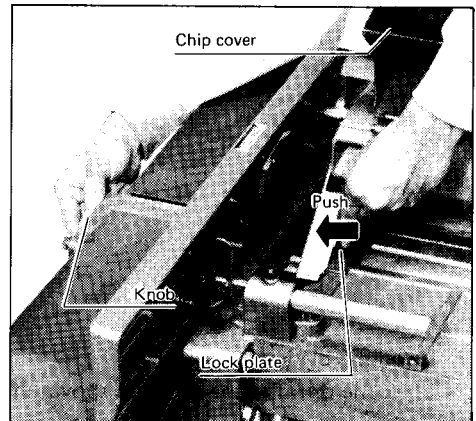

Fig. 16
- Push the lock plate in the direction of the arrow and raise it slightly. Turn the knob to lock the drum. (Fig. 16)